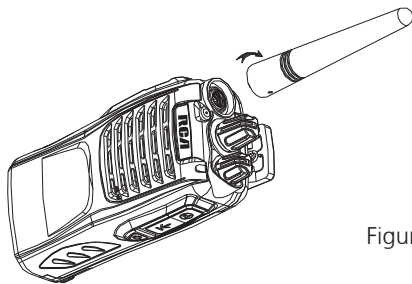

Figure 5
1. With the radio turned off, set the antenna in its receptacle and turn clockwise until it is screwed down. (See Figure 5)